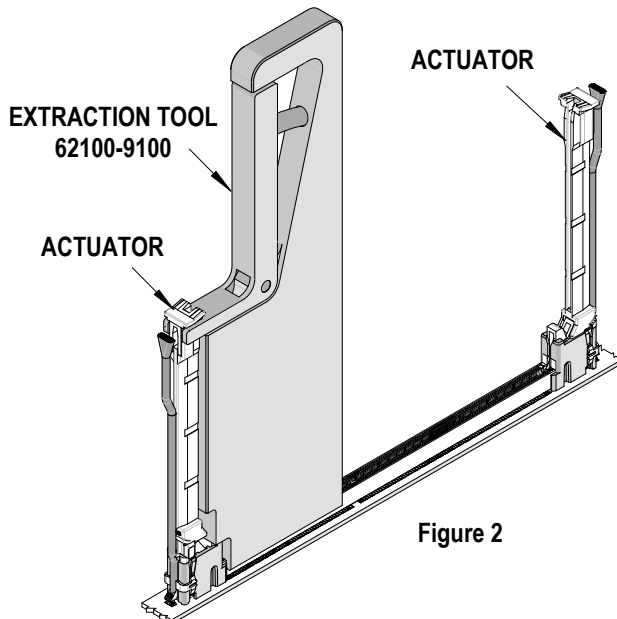

Figure 2
2. Remove the actuator with tool 62100-9100. See Figure 2.